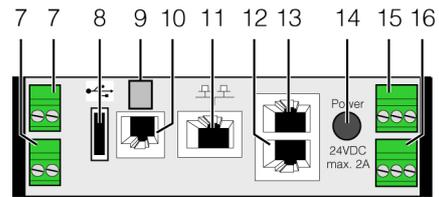

Fig. 93: Liquid Cooling Package control unit (CMC III PU) – rear
Up to eight additional standard sensors may be connected to the control unit (CMC III PU) to monitor additional physical parameters of the Liquid Cooling Package. To this end, the sensors are connected to the first CAN bus connection on the rear of the control unit (fig. 93, item 11) and configured via the Web interface. Information about a wide range of additional sensors may be found in section 15 "Accessories".